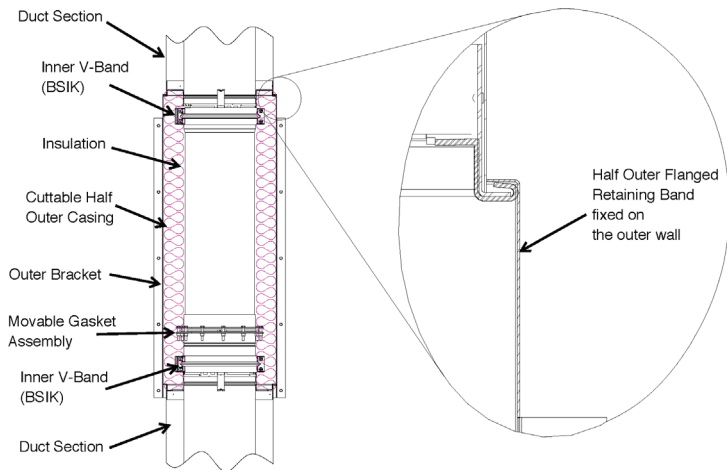

Figure 19 - Installation of Adjustable Length Step 6
6. Install the outer pipe casing insulation (and insulation strip Models DIS1, DIS2, DIS4, and DIS3Z) so the side with the bracket goes on the upstream section. See **Figure 19**.